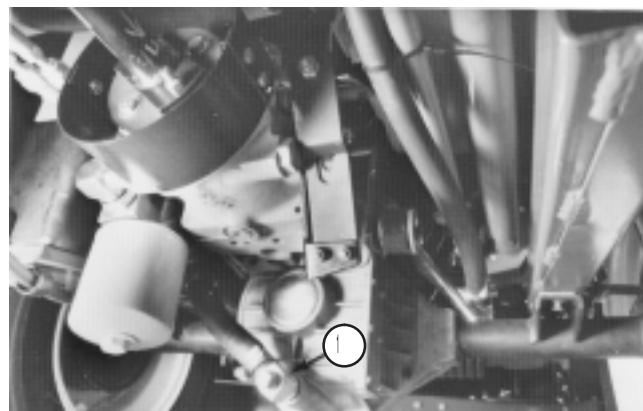
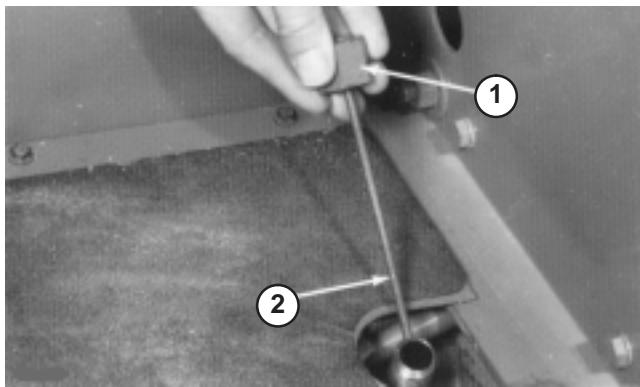

Figure 70
Figure 71
4. Remove drain plug from fitting between axle housing and oil filter and allow fluid to flow into drain pan (Fig. 70).
6. Install drain plug in fitting between axle housing and filter (Fig. 70).
7. Remove dipstick from axle filler tube (Fig. 71) and fill axle to proper level with correct type of hydraulic fluid; refer to table above.
9. Leave machine set for two additional minutes, then remove dipstick and check fluid level in axle (Fig. 71). If level is low, add fluid until level matches groove in dipstick (Fig. 71). If level is too high, remove drain plug (Fig. 70) and drain fluid until level matches groove in dipstick.